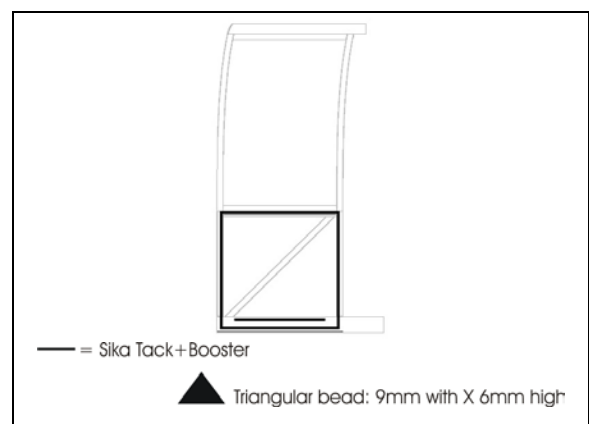
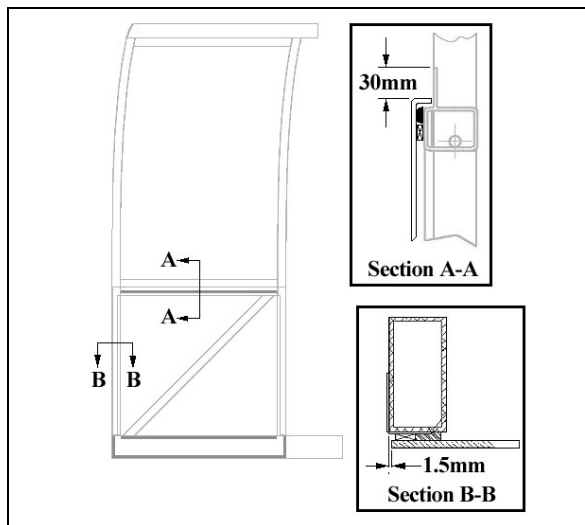

FIGURE 43 : SIDE PANEL INSTALLATION – SIKI TACK+BOOSTER APPLICATION
FIGURE 44 : SIDE PANEL INSTALLATION
4. Apply Sika Tack+Booster (triangular bead: 9mm width X 6mm high) as shown in FIGURE 43 and glue panel in place as shown in FIGURE 44